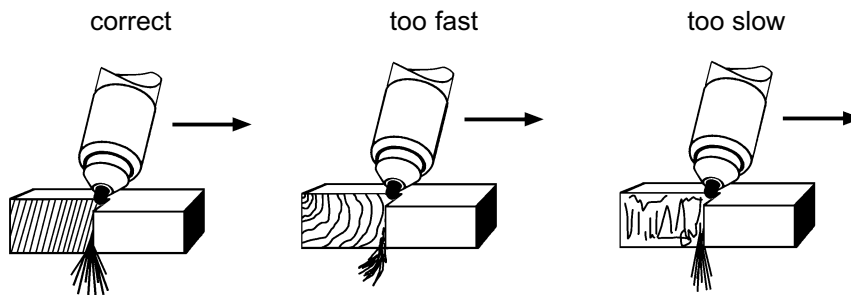

Fig. 16 - Effect of cutting speed
4. For manual and mechanized cutting, maintain a standoff (torch-to-work distance) of about 3/8-in. (stand off guide, P/N 36648, provides that distance). Keep the torch head vertical, and move it at a rate that produces the desired cut quality. The cutting should produce a straight fine spray of molten metal emitting from beneath the workpiece as illustrated in Fig. 16. For mechanized cutting, see Table 2 or 3 for recommended cutting speed range.